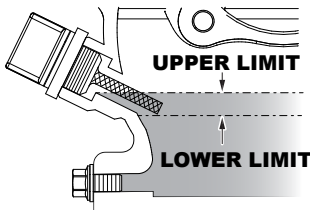

Figure 5. Engine Oil Dipstick (Oil Level)
4. If the oil level is low (Figure 5), fill to the edge of the oil filler hole with the recommended oil type as listed in Table 5. Reference Table 2 for maximum engine oil capacity.